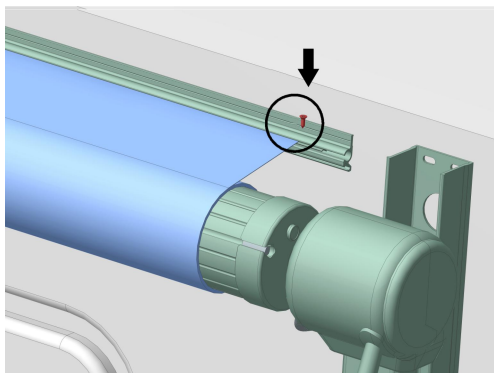

Figure D25
6.3 Insert fixing screw B (Figure D25) on both sides of the fabric insert to prevent the sunshade fabric from moving. Pay attention to tightening the sunshade fabric moderately when inserting the fixing screw to ensure flatness.